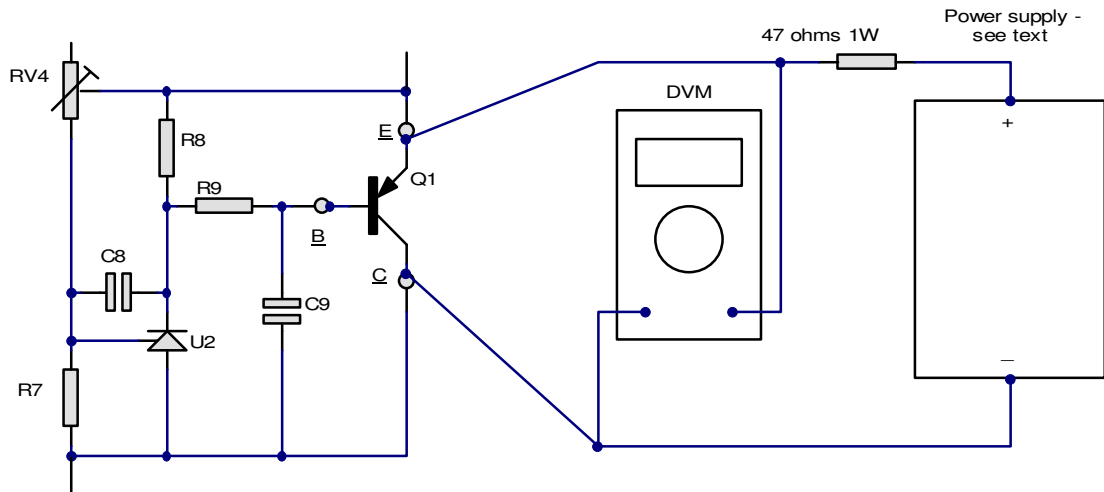

Figure 13: Cathode bias test setup
1. Connect Q1 (observe correct connections). To apply current through the cathode bias regulator, connect a 47Ω 1W resistor from the + terminal of an external power supply to the E terminal of Q1 (see Figure 13). Connect the – terminal of the power supply to the C terminal of Q1.